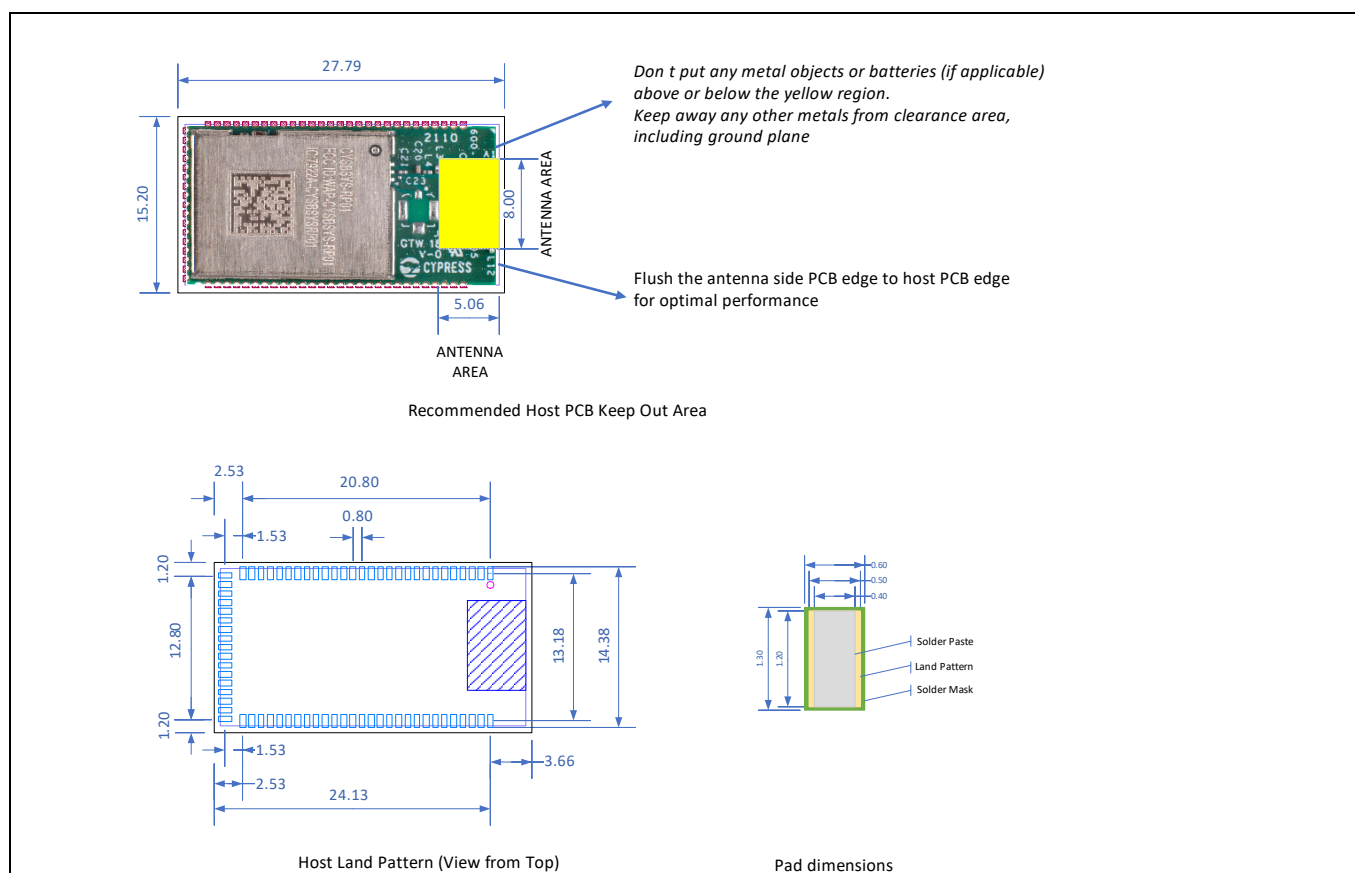

Figure 4 Board land pattern on host PCB (Top view seen on host PCB)
Figure 4 provides details that can be used for the recommended host PCB layout pattern for CYSBSYS-RP01. Dimensions are in millimeters unless otherwise noted. Pad length of 1.02 mm as shown in **Figure 4**, is the minimum recommended host pad length. All dimensions are referenced to the center of the solder pad.
- The ideal placement of the CYSBSYS-RP01 board is in a corner of the host board with the antenna located outside the edge of the host board. This placement minimizes the additional recommended keep out area stated in item 2.
- To maximize RF performance, the area immediately around the system antenna should contain a keep out area, where no grounding or signal traces are contained. This keep out area applies to all layers of the host board. The recommended dimensions of the host PCB keep out area are shown in **Figure 4**.